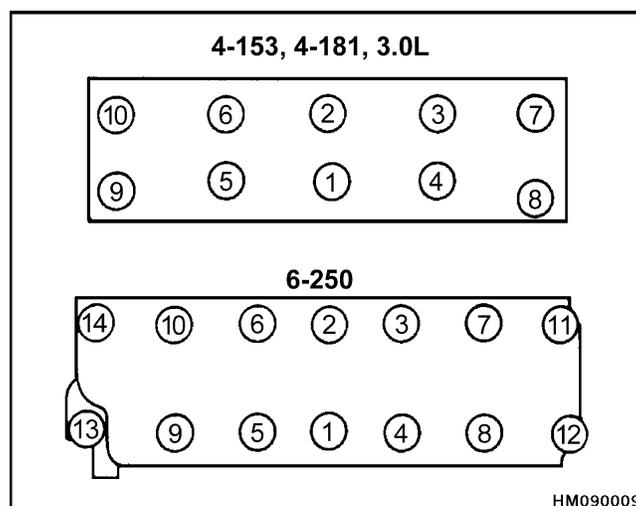

Figure 9. Cylinder Head Tightening Sequence
3. Carefully install the cylinder head to the engine block. Use a sealant on the capscrews during installation. Tighten the head bolts evenly in a minimum of three steps. Tighten the head bolts evenly to a final torque of 122 N•m (90 lbf ft) in the sequence shown in Figure 9.